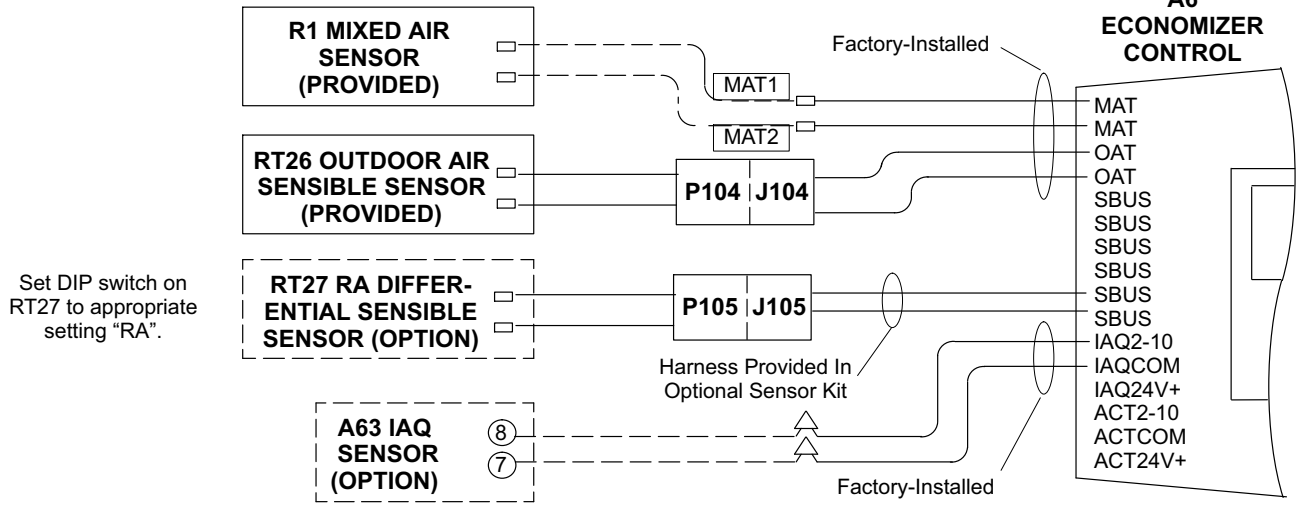

**FIGURE 5**
- 3- Connect any optional sensors as shown in figure 5 or 6.